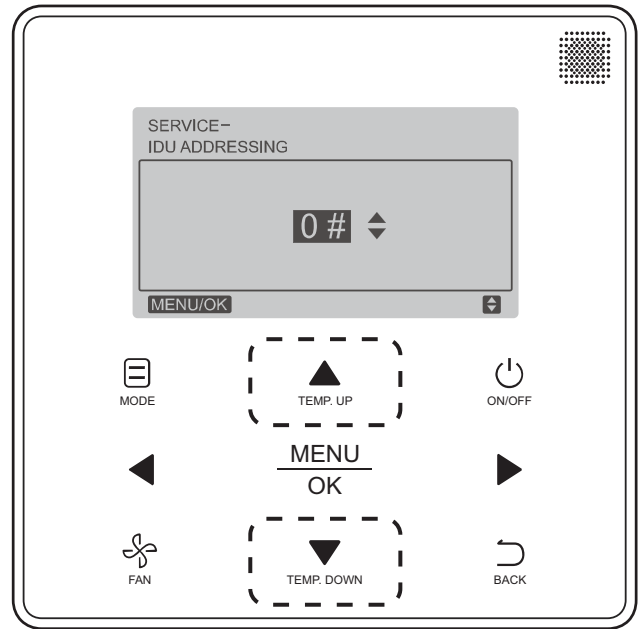

Fig. 41 —Programmable Controller Setting IDU Address
3. Press **TEMP. UP** or **TEMP. DOWN** to choose the address you want to set. See Fig. 41. Press **MENU/OK** to send this address to the IDU.